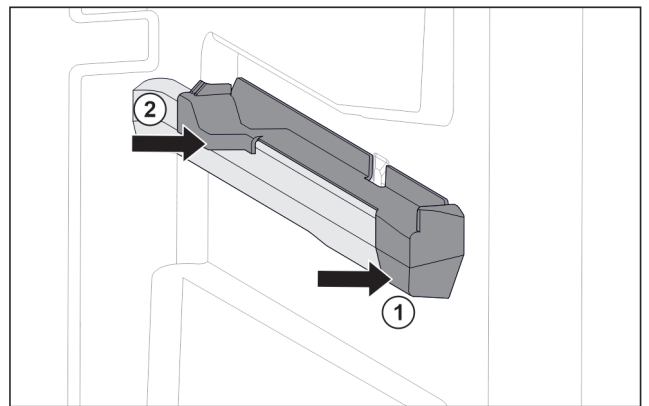

Fig. 120 Attachment on the right moulded rib
- ▶ Position attachment on moulded rib at the front. Fig. 120 (1)
- ▶ Press on attachment at the back. Fig. 120 (2)